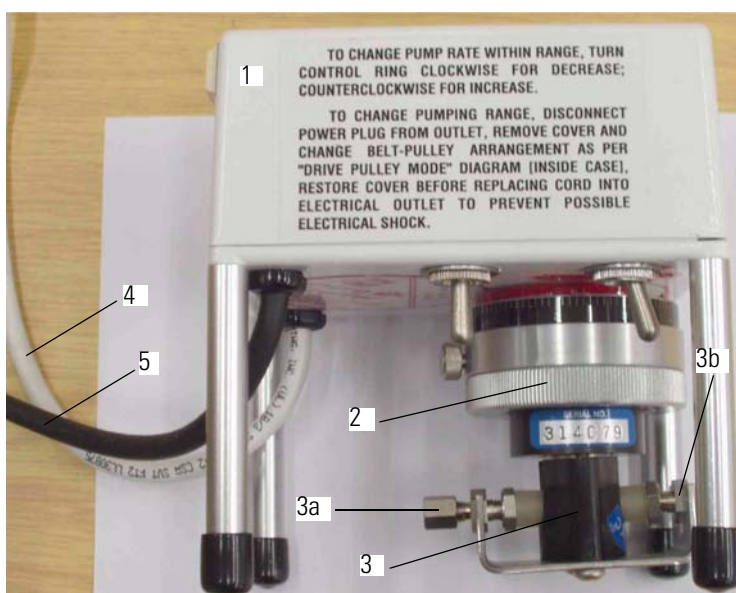

Figure 6-1. Acid pump - side view
Figure 6-1 shows the switches that have been deactivated by Thermo Fisher Scientific in the modified version. Direction and volume pumped per stroke are accessed externally via an additional device.
No. in Figure 6-1	Designation
The acid pump can be operated at three drive levels, that is at different rotational speeds, which are described inside the control housing. See pos. 1 in Figure 6-1.